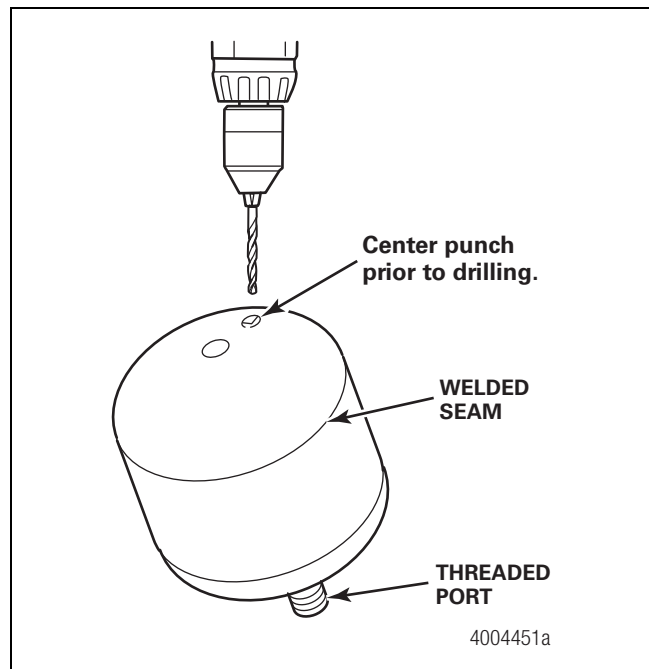

Figure 4.16
11. Use the following steps to depressurize the accumulator and disable the internal pressure chamber before disposing of the accumulators. Figure 4.16.
- C. Use a 3 mm or 1/8-inch drill bit to slowly and carefully drill approximately 1/2-inch (12.7 mm) into the accumulator. Figure 4.16.